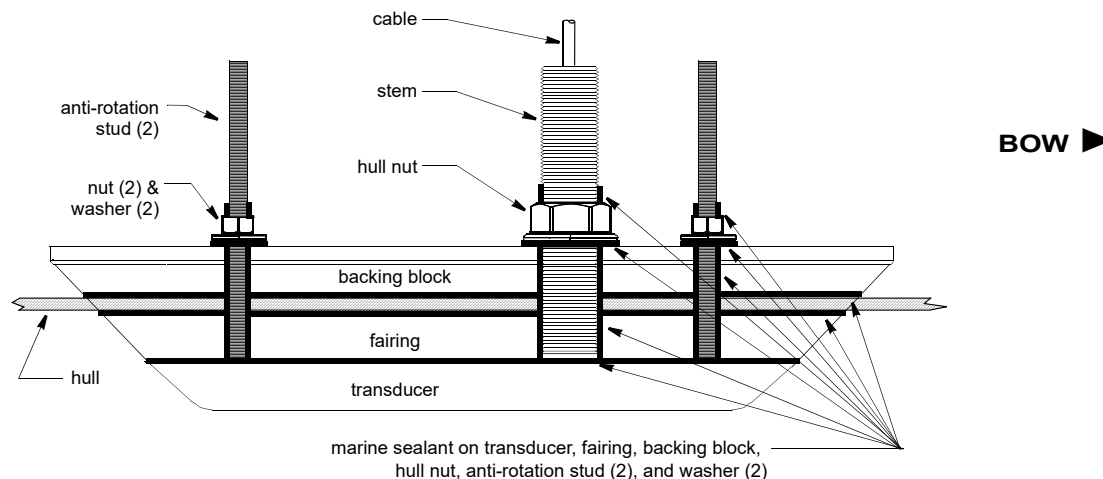

Figure 4. SS70, SS70-TS, SS141L: Bedding and installing with a fairing in a fiberglass or wood hull (SS141L shown)
5. Place the fairing on the table so the cutting guide rests against the fence. The arrow will be pointing *toward* you for installation on the starboard side of the boat or *away* from you for installation on the port side (Figure 4).
1. Locate and drill the holes for the transducer stem and anti-rotation studs, using the fairing as a guide (Figure 4, 5, 6, or 7). Align the fairing parallel to the centerline of the boat (keel) with the arrow facing forward toward the bow.
1. Remove the hull nut (Figure 4, 5, 6, or 7).
1. From outside the hull, thread the cable through the mounting hole (Figure 4,5, 6, or 7).